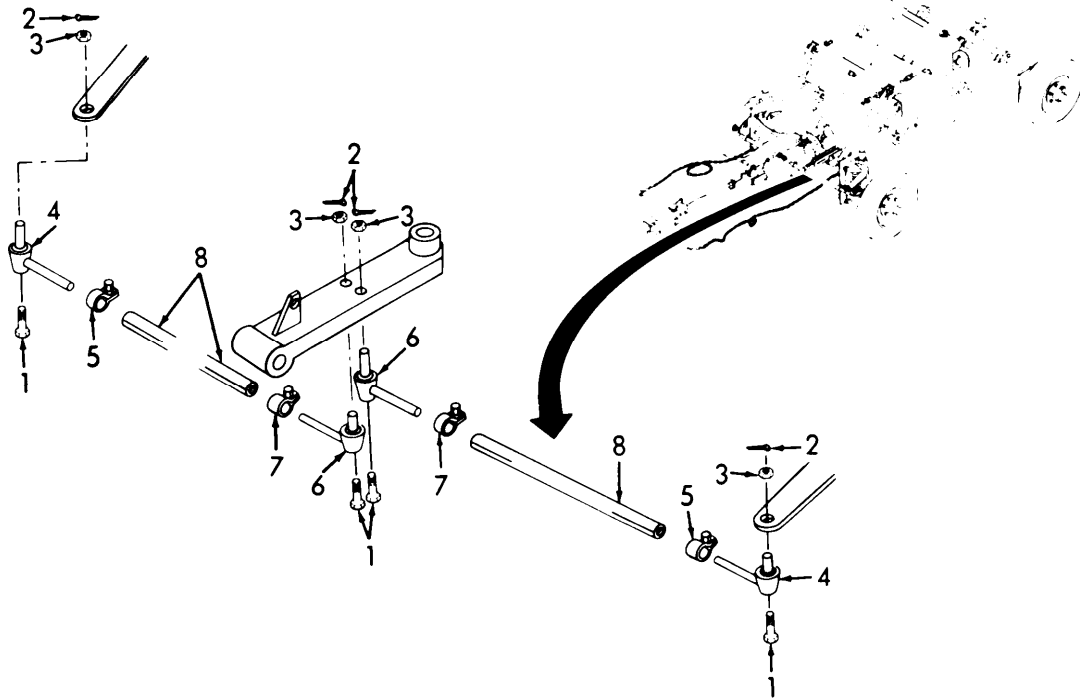

Figure 3-30. Tie Rod Ends, Installation.
- (1) Install tierodends (4, Figure 3-30) and (6).
- (a) Install four clamps (5) and (7) onto tie rod ends (4) and (6).